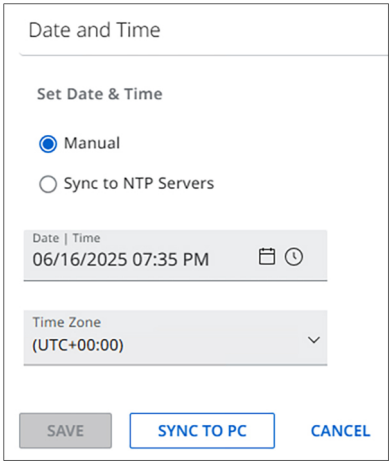

Figure 34. Manual Mode
1. Click **EDIT** in the Date and Time panel. The editable fields are displayed (see figure 34).